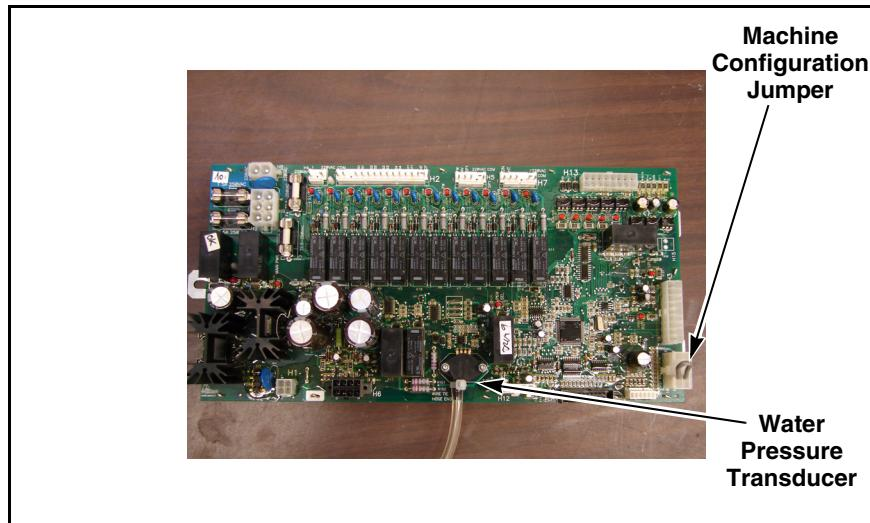
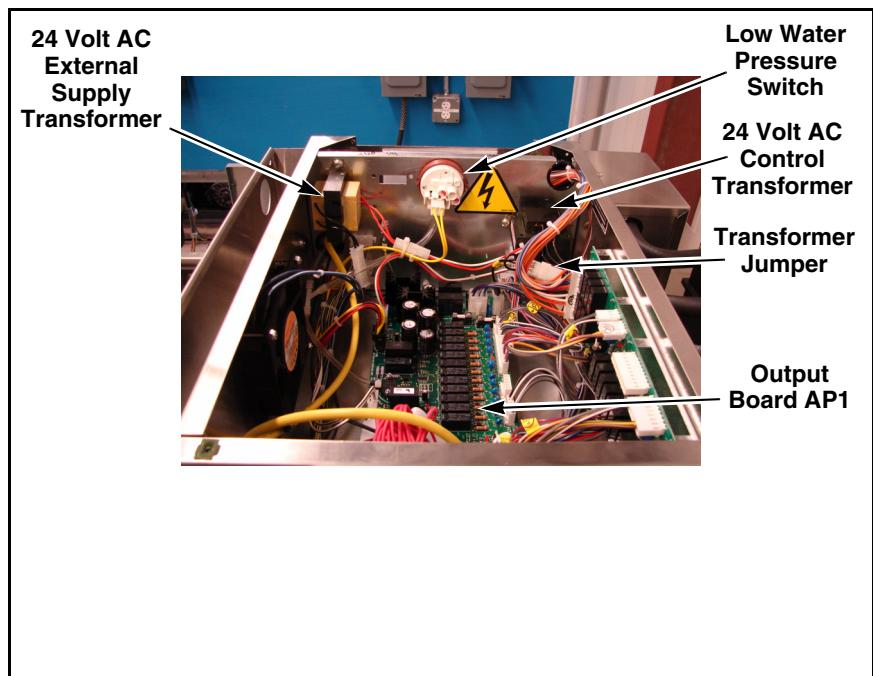

Figure 10
Figure 12
The water level is controlled by the water pressure transducer on output board AP1. The low water pressure switch does not control the water level. Refer to *Figure 10* for the water pressure transducer location and to *Figure 12* for the low water pressure switch location.
2. Check to make sure the correct transformer jumper (208 Volt or 240 Volt) is in place. Refer to *Figure 12*. Refer to the "Optional Electrical Service Connection" label (Part No. F8099701) located on the back of the machine near the electrical service line in for machine electrical requirements.
3. Check to make sure the fuses on output boards AP1 and AP3 are good. Refer to *Figures 12* and *13*.
6. Check to make sure LED 3 (labeled 5VDC) on output board AP1 is on. If the LED is not on, refer to the UniLinc Troubleshooting manual for detailed troubleshooting information. Refer to *Figure 12*.
7. Check all wire harness connections on output boards AP1, AP2 and AP3. Refer to *Figures 12* and *13*.
8. Make sure output boards AP1, AP2 and AP3 are energizing by checking to make sure the LEDs on the output boards are on. If the LEDs are not on, refer to the UniLinc Troubleshooting manual for detailed troubleshooting information. Refer to *Figures 12* and *13*.
9. Make sure LED 26 (labeled SPI) on output board AP1 is blinking steadily. If the LED is not blinking steadily, refer to the UniLinc Troubleshooting manual for detailed troubleshooting information. Refer to *Figure 12*.
10. Make sure LED 24 (labeled RST) on output board AP1 is on. If the LED is not on, refer to the UniLinc Troubleshooting manual for detailed troubleshooting information. Refer to *Figure 12*.
12. When the door is closed, make sure LED 22 (labeled Main Pwr) and LED 23 (labeled INTLCK) on output board AP1 are on. If the LEDs are not on, refer to the UniLinc Troubleshooting manual for detailed troubleshooting information. Refer to *Figure 12*.
2. Note that the water level is controlled by the water pressure transducer on output board AP1. The low water pressure switch is a safety switch only. Refer to *Figure 1* for the water pressure transducer location and to *Figure 12* for the low water pressure switch location.